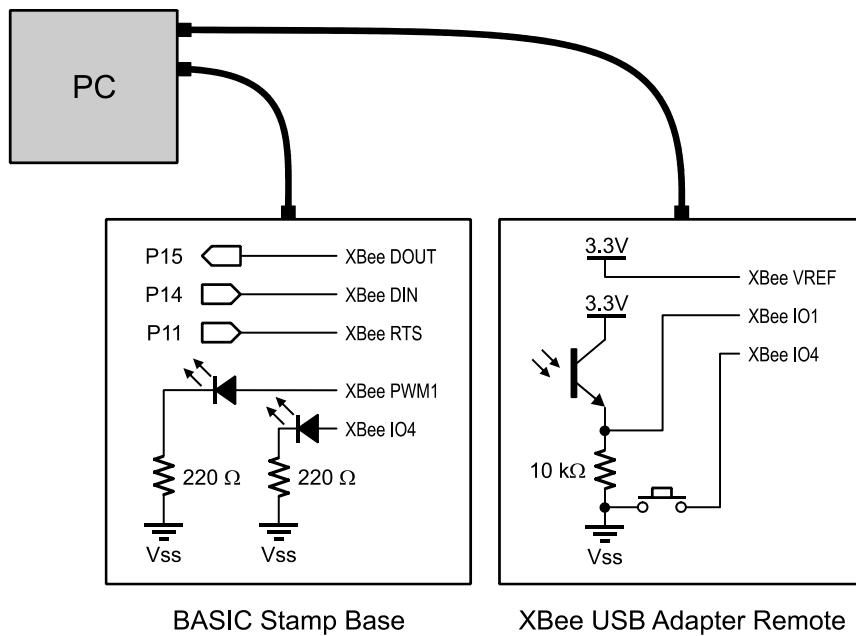

Figure 6-11: BASIC Stamp Testing Hardware Configuration
The code, API_Base.BS2, will be used to send and receive framed data in API Mode to highlight some of the nice features of API Mode and the XBee module in this mode. The code is very long and memory intensive. Further on we will discuss some tricks to use less memory, but generally these tricks reduce the amount of data received and nearly eliminate the need to use API Mode in the first place. The configuration in Figure 6-11 is used to test API_Base.bs2. The Base node is controlled and monitored via the BASIC Stamp Debug Terminal and the Remote node is on USB for power and is using X-CTU for a terminal. An array of 18 bytes called **Dataset** is used to hold the incoming and outgoing frame.
- ✓ Configure the hardware as shown in Figure 6-11.